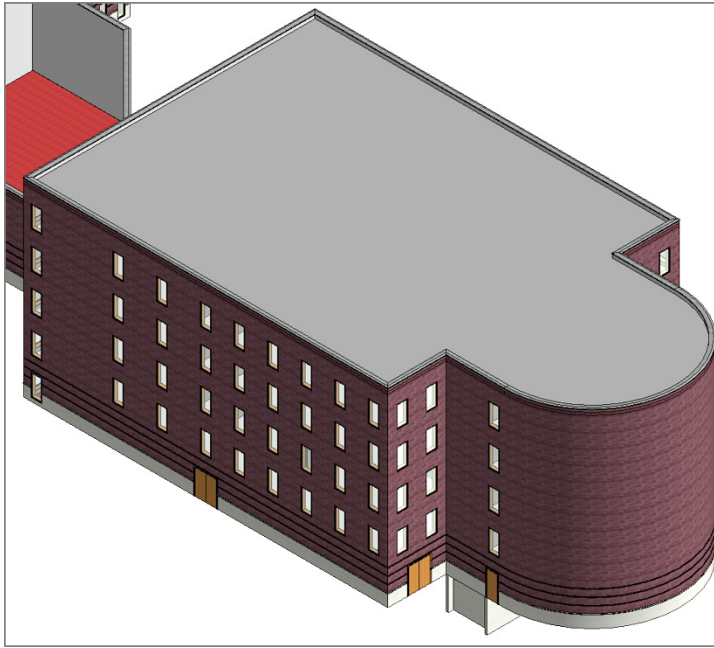

FIGURE 7.4 : The roof has been added. You still have a lot of work to do, though.
15. Go to a 3D view, as shown in Figure 7.4.